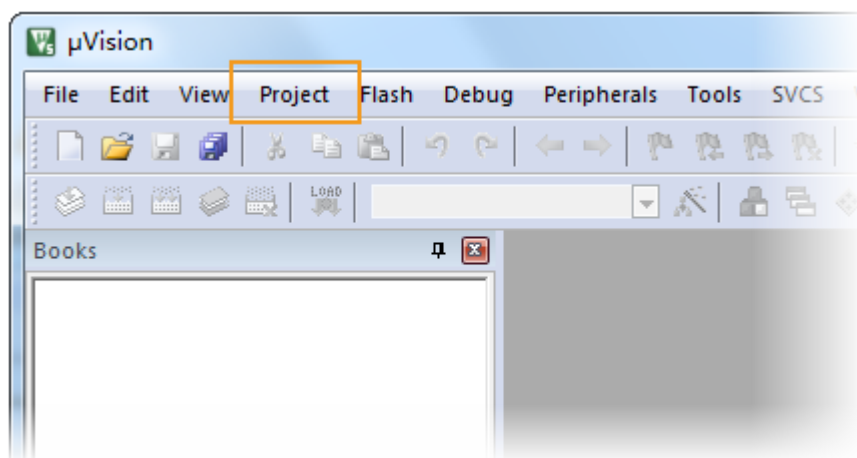
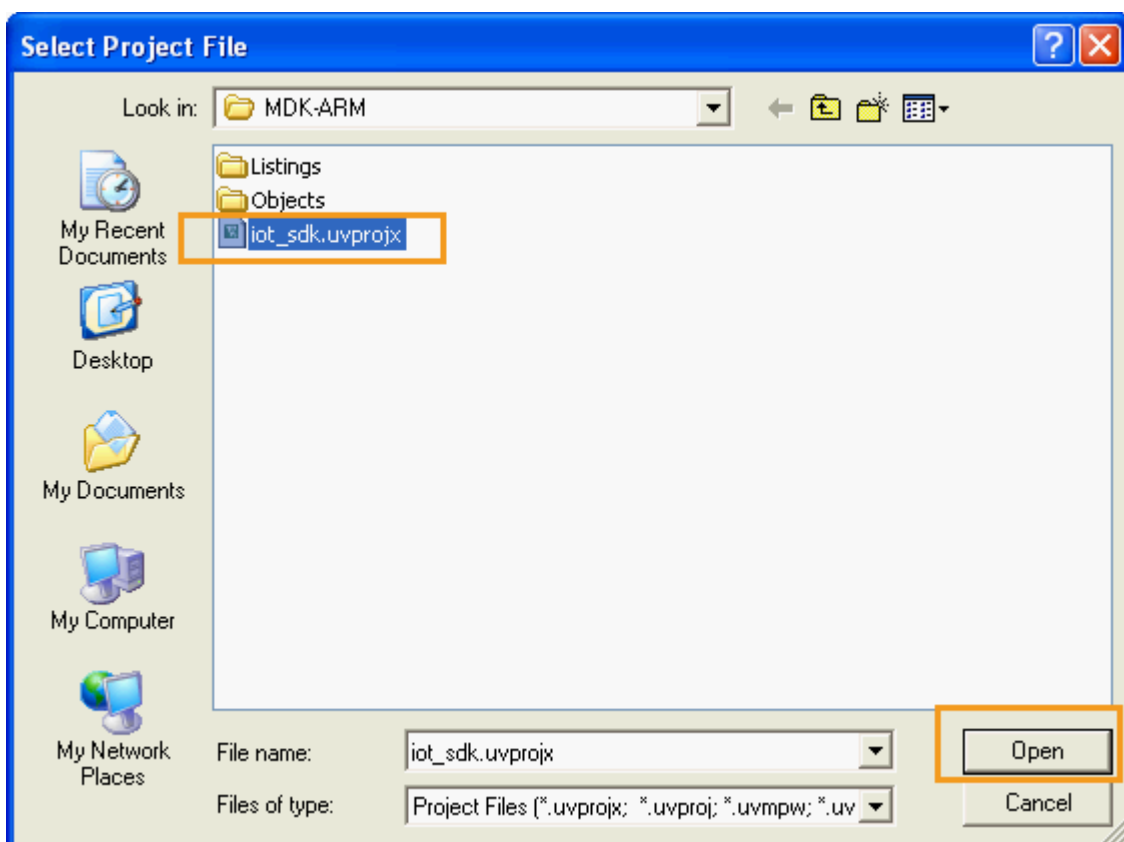

Figure 42. Importing the preconfigured project
Figure 43. Project file for Keil
- a) Navigate to **Project** (see Figure 42) in the μ Vision IDE's main menu, then **Open Project**. Click **Open** to import the project. The project file is named as <project>.uvprojx, such as the one shown in Figure 43.